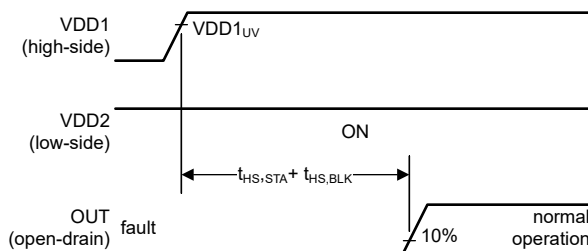

Figure 7-6. VDD2 is On; VDD1 Turns On (Long Delay)
In Figure 7-6, the high-side supply (VDD1) turns on long after the low-side supply (VDD2) turns on. The output is initially in an active-low state, see case (1). After the high-side supply is enabled, there is a duration of $t_{HS,STA} + t_{HS,BLK}$ before the device assumes normal operation and the output reflects the current state of the comparator.